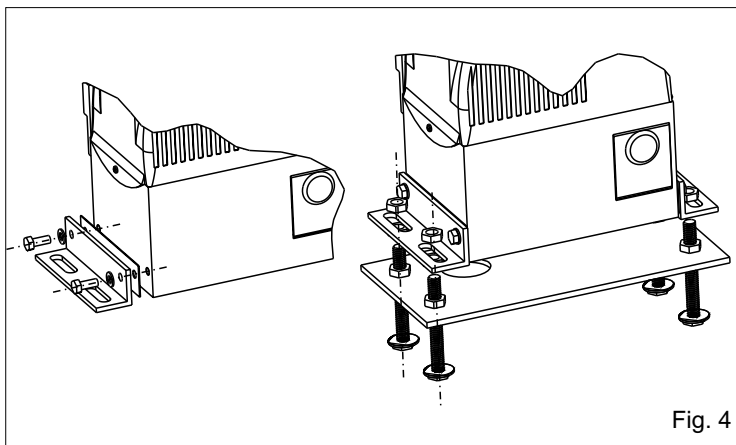
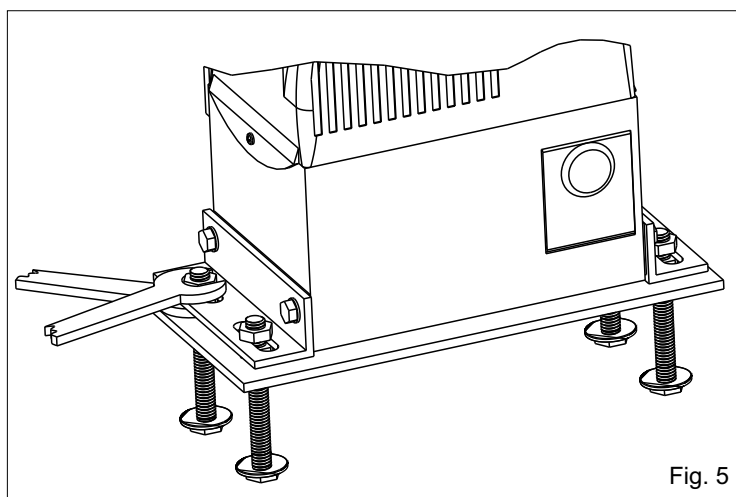

Fig. 4
Fig. 5
**4.1.** Fix the side fixing angulars to the motor-reducer with the provided screws (Fig. 4)
**4.2.** Fix the motor-reducer to the foundation plate adjusting the side position and its height (Fig. 4 - Fig. 5) considering the mentioned measurements in Fig. 2.